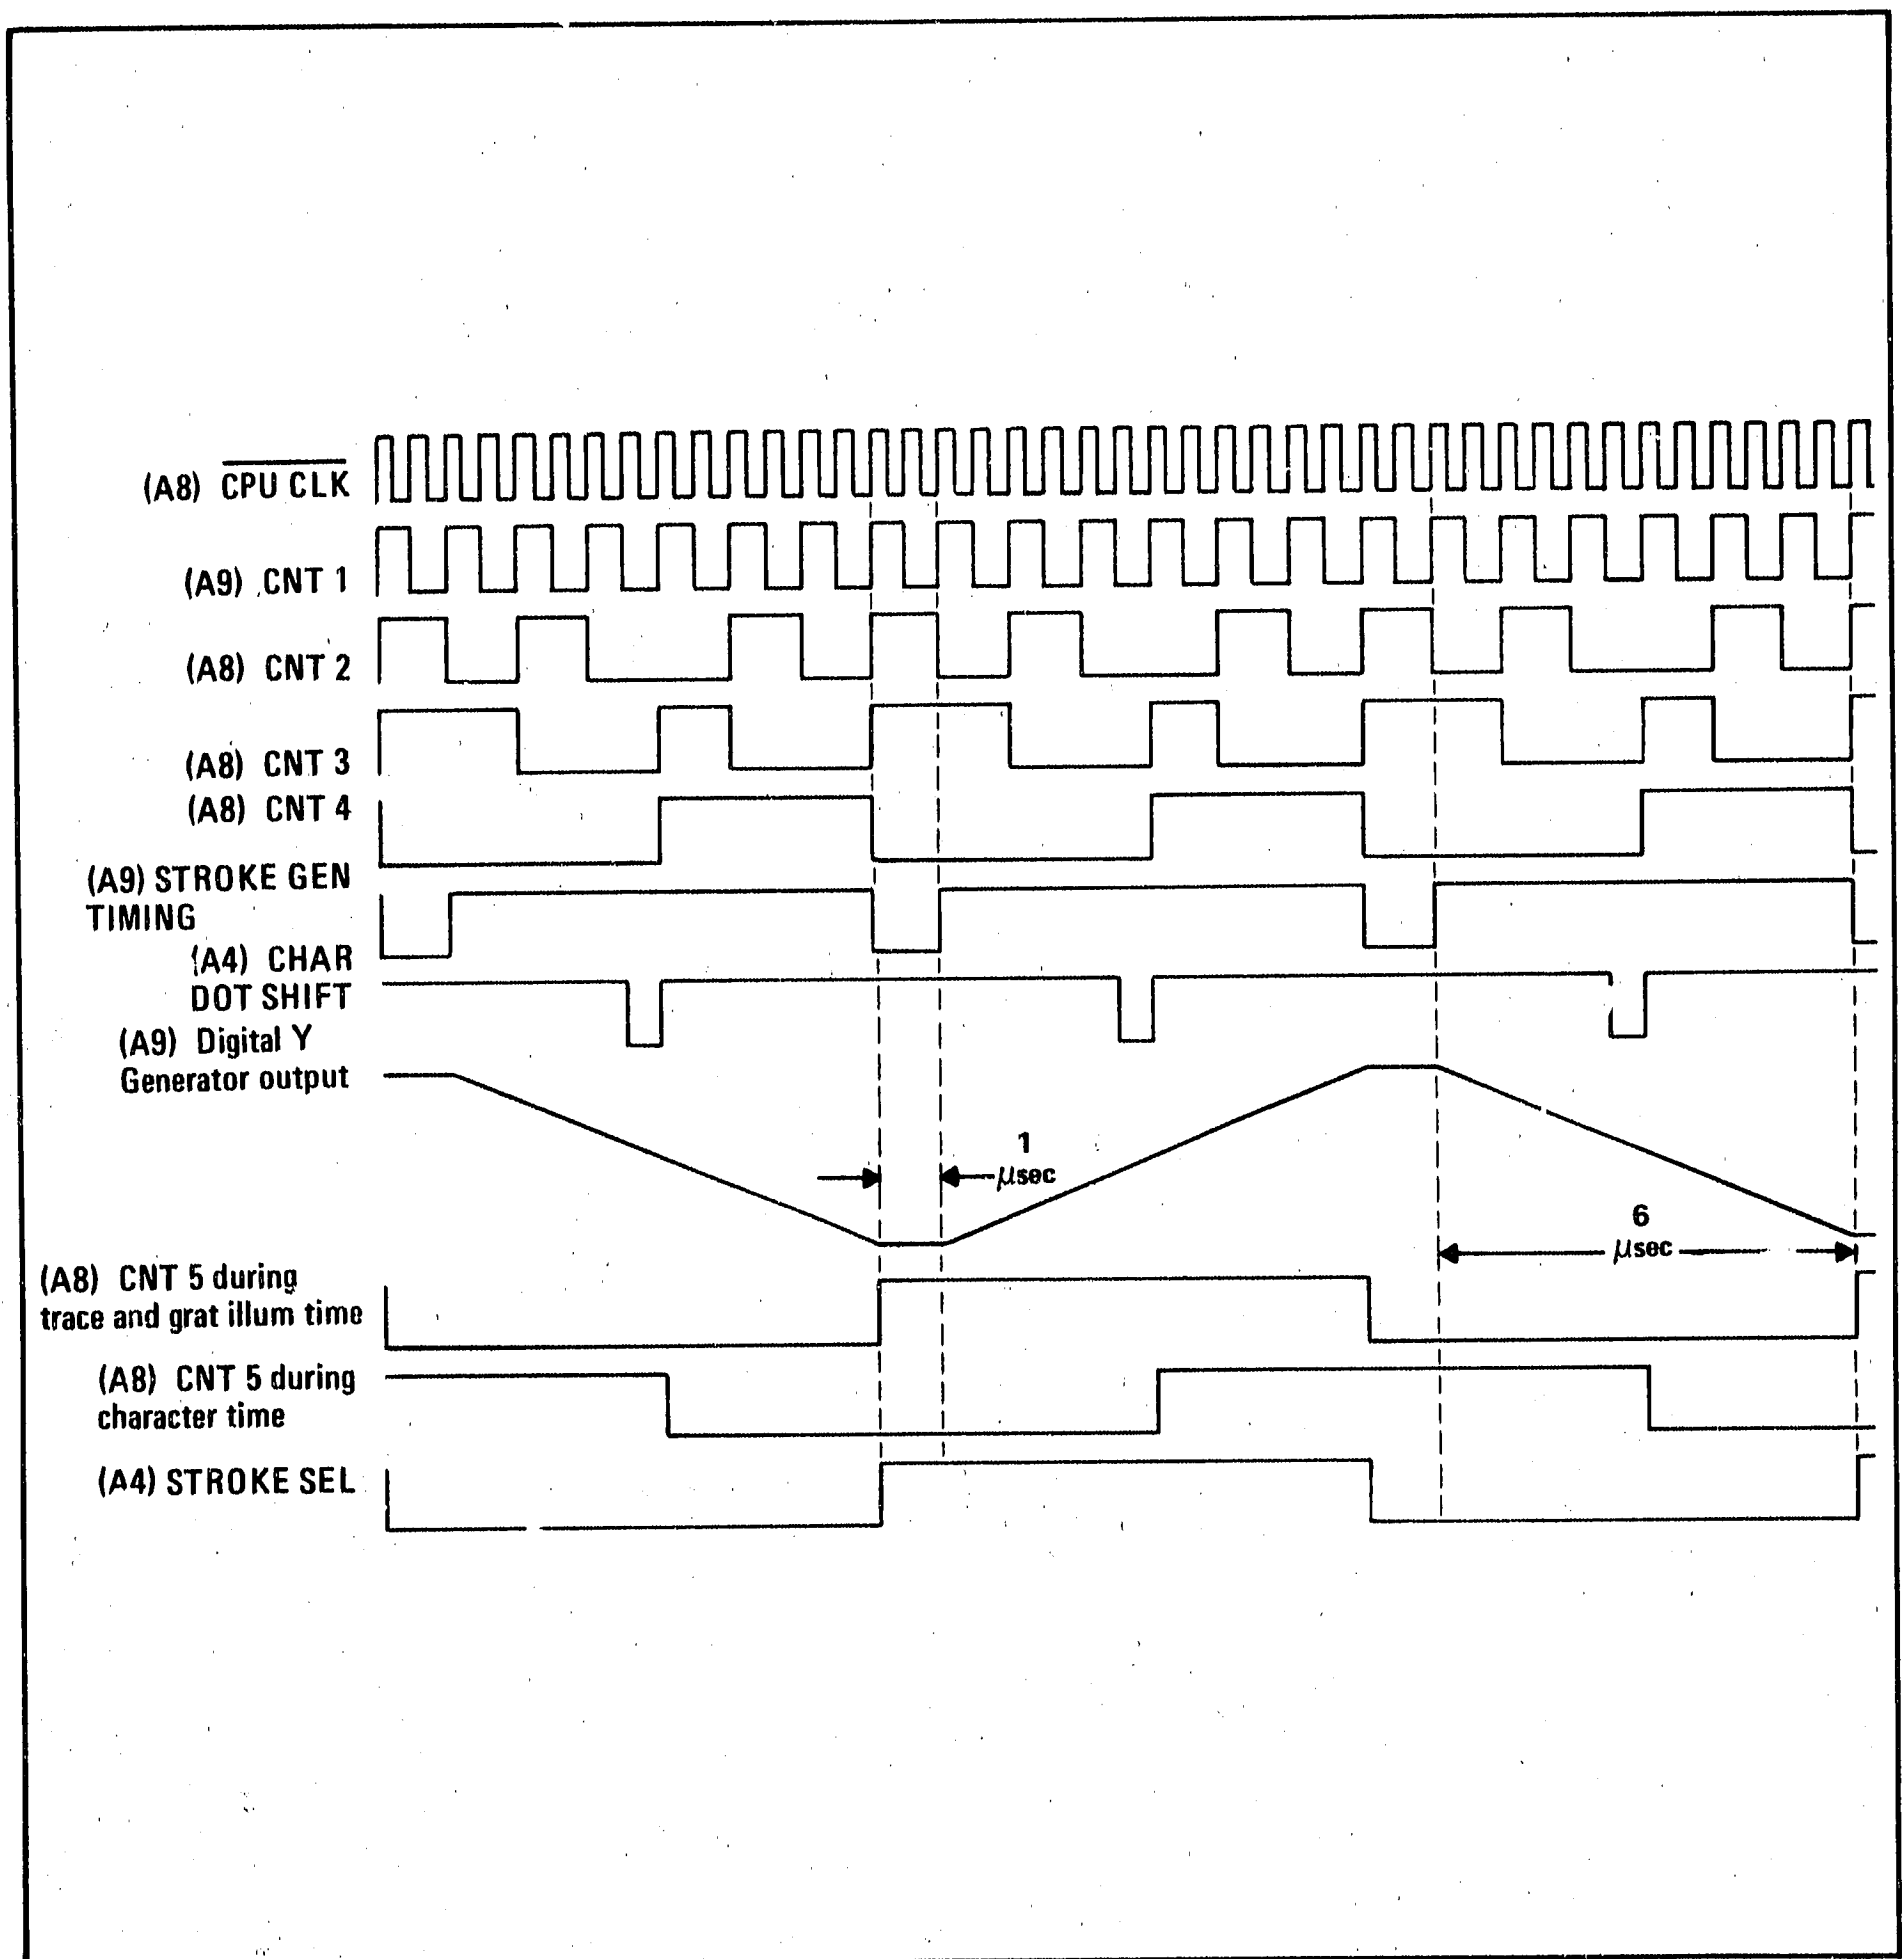

Figure 8-22. Stroke Generator Timing Diagram
**STROKE GEN TIMING** determines the timing of the strokes drawn by the Digital Y Generator in A9. (See Figure 8-22.) The signal is high for the 6  $\mu$ s that a stroke is being drawn, and low for the 1  $\mu$ s that the Y value is being updated and the CRT beam is blanked.